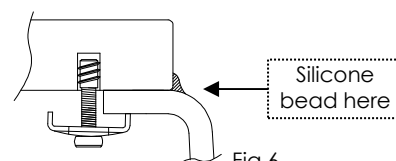

Fig 6.
- Place the worktop, sink and tap carefully onto the kitchen carcasses. Where possible apply a 2nd bead of silicone around inside of the sink and worktop joint as shown in Fig. 6. Any excess silicone can be cleaned away using a proprietary silicone cleaner. Allow the silicone to dry.